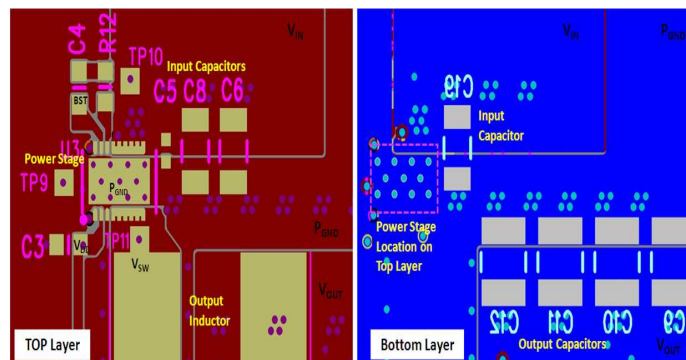

Figure 17. Recommended PCB Layout (Top Down View)
- The placement of the input capacitors relative to V_{IN} and P_{GND} pins of CSD97394Q4M device should have the highest priority during the component placement routine. It is critical to minimize these node lengths. As such, ceramic input capacitors need to be placed as close as possible to the V_{IN} and P_{GND} pins (see Figure 17). The example in Figure 17 uses 1 x 1 nF 0402 25V and 3 x 10 μ F 1206 25 V ceramic capacitors (TDK part number C3216X5R1C106KT or equivalent). Notice there are ceramic capacitors on both sides of the board with an appropriate amount of vias interconnecting both layers. In terms of priority of placement next to the Power Stage C5, C8 and C6, C19 should follow in order.
- Use the smallest drill size allowed in your design. The example in Figure 17 uses vias with a 10 mil drill hole and a 16 mil capture pad.